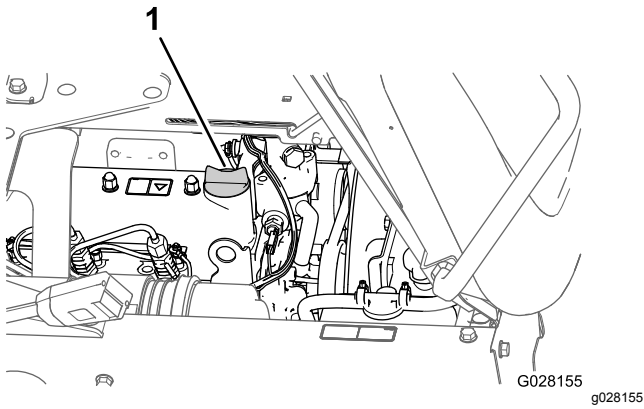

Figure 70
3. If the oil level is low, remove the filler cap from the valve cover (Figure 70) and pour oil into the filler neck until the oil level is up to the FULL mark on the dipstick.